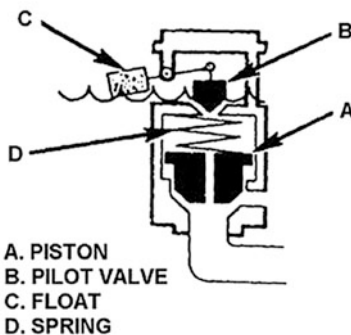

Figure 3-5. Piston-type fuel-level control valve.
Figure 3-5 illustrates a piston-type fuel-level control valve, which also uses the hydromechanical principle for operation and control. Fuel pressure pushes the piston (A) open, which allows fuel to enter the tank. Some of the fuel passes through the piston, pushing the pilot valve (B) open to allow fuel flow into the tank. When the tank is nearly full, the float (C) rises and closes the pilot valve to prevent fuel from flowing through it. Fuel pressure inside is now equal to the pressure holding the piston open. With the aid of a spring (D), the piston closes and prevents more fuel from entering the tank.